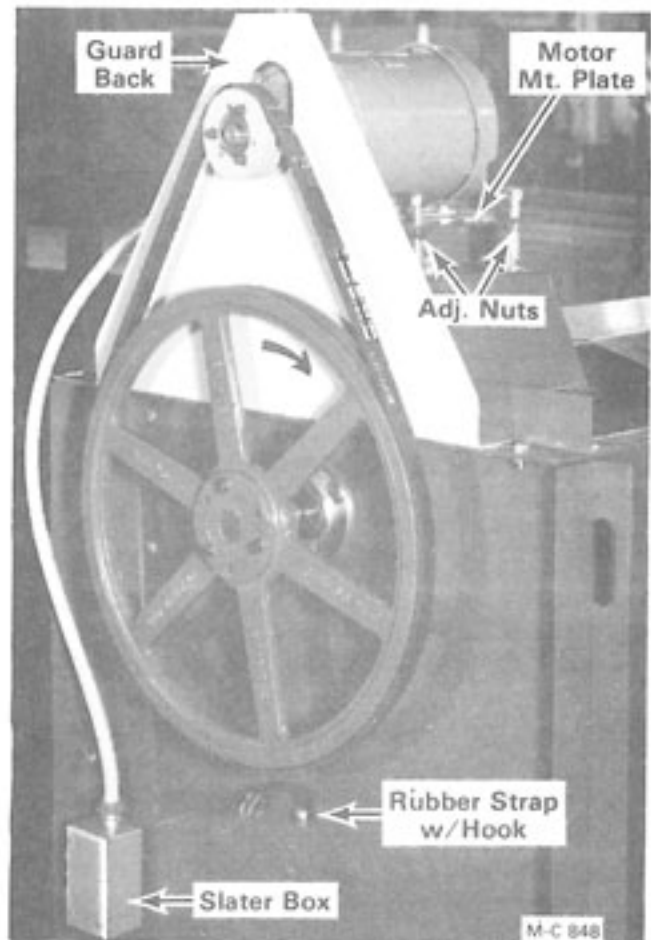

Figure 3
2. Put four  $\frac{1}{2}$ -13 x  $3\frac{1}{2}$ " full thread capscrews in the level auger motor mount and lock in place with flanged locknuts. Thread a  $\frac{1}{2}$ -13 hex nut onto each capscrew and install the motor mount plate with motor. See Figure 3.
3. Install the level auger guard back as shown in Figure 3. Install a  $\frac{1}{4}$  x  $\frac{1}{4}$  x  $1\frac{1}{2}$ " key in the level auger shaft and a  $\frac{1}{4}$  x  $\frac{1}{4}$  x  $1\frac{3}{4}$ " key in the 3HP motor shaft.
- Install the rubber strap with hook to the front end panel as shown in Figure 3. Hook the level auger guard over the top of the guard back and secure with rubber strap and hook.